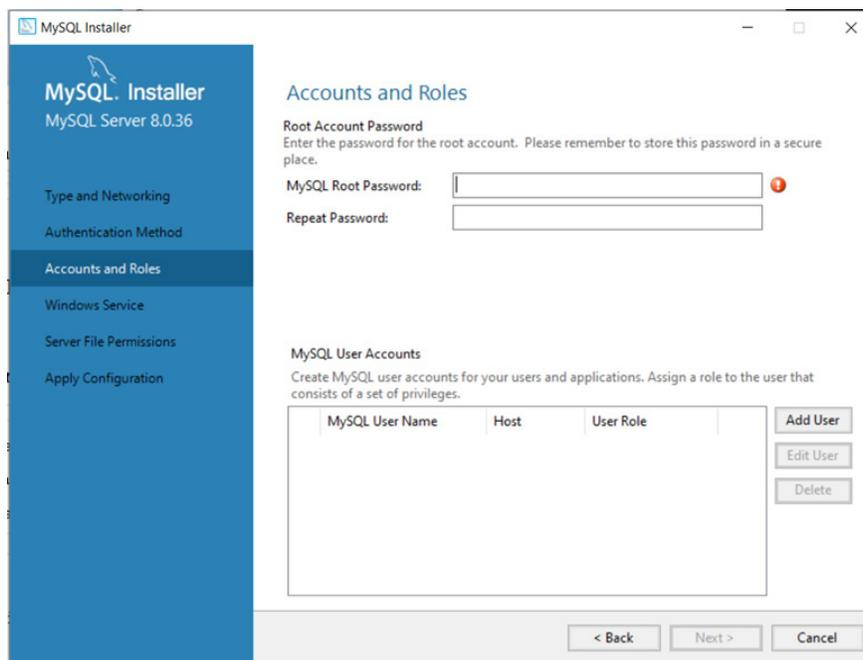

Figure A9
9. On the "Accounts and Roles" screen, enter an SQL password. Note that this password is separate from the MSM login page credentials. Click "Next". (Figure A9)